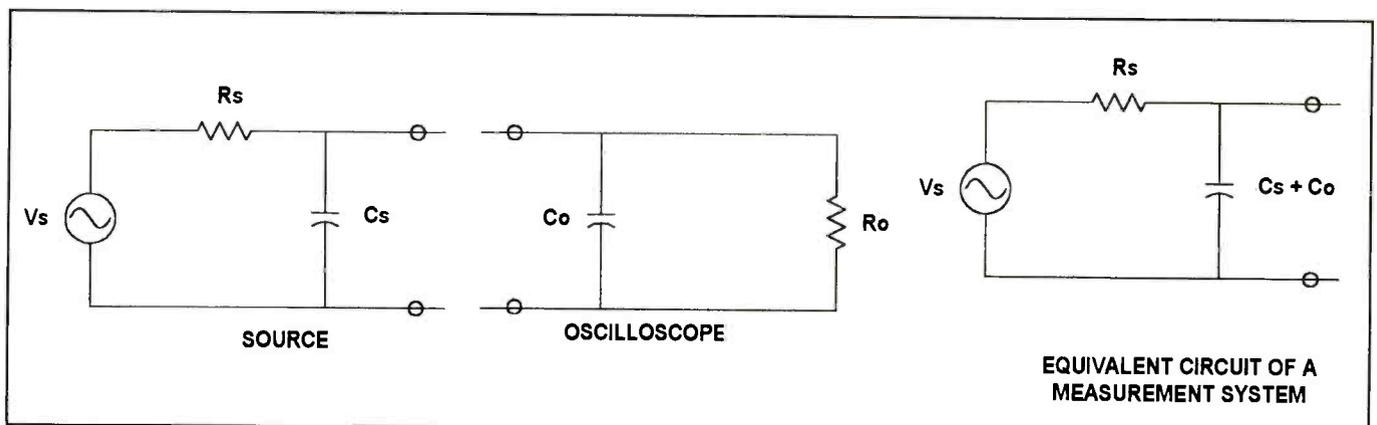

Figure 4. Deriving an equivalent circuit for a measurement system
Consider the simplified measurement system model shown in Figure 4. The actual circuits of the oscilloscope and of the high impedance probe have been reduced to an equivalent parallel resistor-capacitor (RC) circuit. Similarly, as was done in a previous discussion, the circuit being measured has been simplified and reduced to its Thevenin equivalent form. If the circuit's source resistance,  $R_s$ , is approximately  $50\Omega$  and the measurement is made using a conventional 10:1 high impedance probe, then it is reasonable to ignore the probe's  $10M\Omega$  resistance,  $R_o$ . The equivalent circuit for the system now consists of a series resistance,  $R_s$ , and a shunt capacitance, with a value equal to the sum of the source,  $C_s$ , and the input capacitance of the probe/oscilloscope,  $C_o$ . From this simple model we can pre-